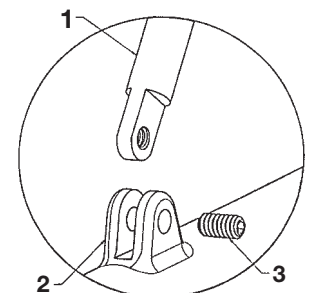

Figure 1
3. Remove supply arms from faucet and screw onto supply lines. (See Fig. 1) Position the supply arms so they line up with the faucet inlets (8" center to center).
4. Place the flanges over the supply arms and against the finished wall. (See Fig. 1)
5. Make sure inlet gasket is sitting in place within the union nut. (See Fig. 1) Attach faucet to supply arms and tighten union nut securely.